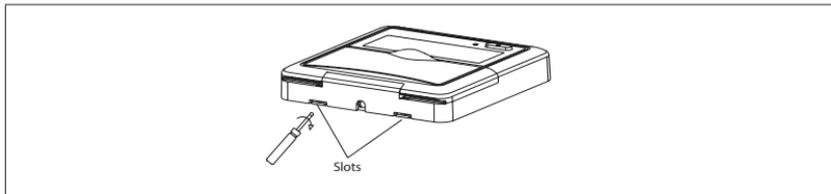

Figure 2. Remove Cover from Wall Plate
2. Remove the cover from the wall plate using a flat-head screwdriver. See figure 2.